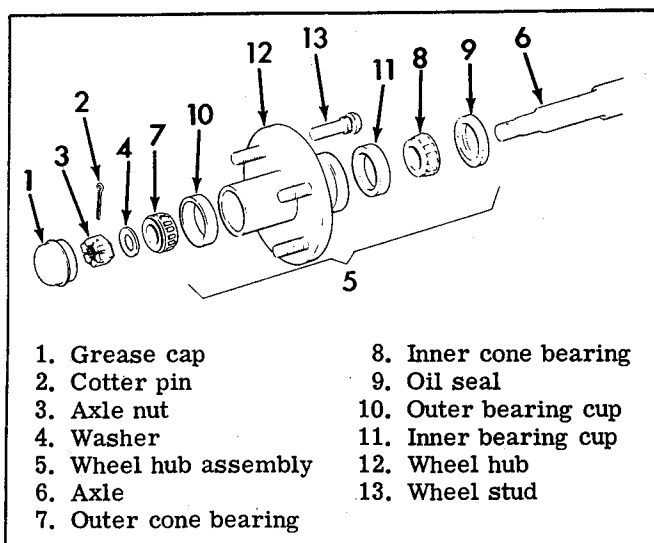

Figure 2-25. Front Wheel Hub, 4 Wheel Car - Exploded View
4 WHEEL MODELS (See Figure 2-25)
To remove wheel hubs, Figure 2-25, remove grease cap (1), cotter pin (2), castle nut (3), and flat washer (4). Remove hub assembly (5) from axle (6).